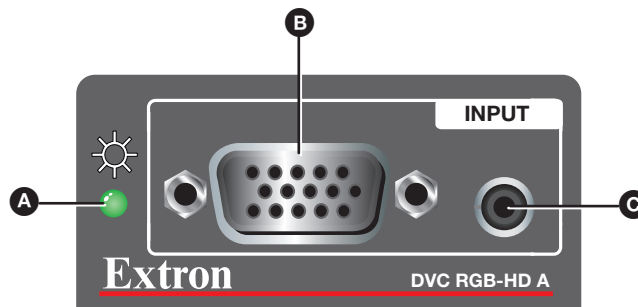

Figure 2. DVC RGB-HD A Front Panel
3. **Connect the input.** Connect an RGBHV source to the front panel VGA input connector (see figure 2, **B**, on the next page).
4. (Optional) **Connect the audio input.** Connect analog audio to the 3.5 mm TRS jack on the front panel (see figure 2, **C**).